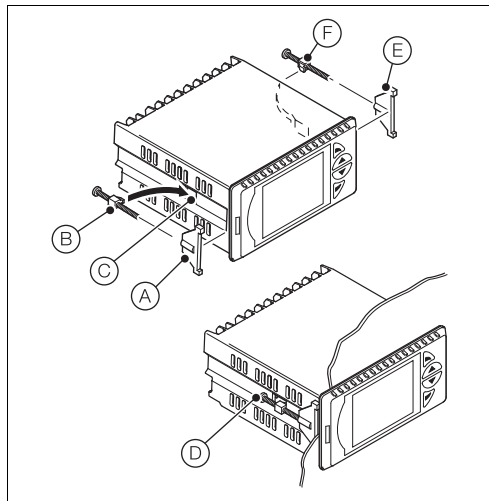

Fig. 4.8 Mounting Details – CM15 Indicator
3. Referring to Fig. 4.8:
- a. Position the upper panel clamp (A) at the top front of the case against the panel.
- b. Locate the panel clamp anchor (B) in slot (C).
- c. Tighten the panel clamp anchor screw (D) until panel clamp (A) is secured against the panel (torque 0.1 Nm [0.9 lbf/in.]).